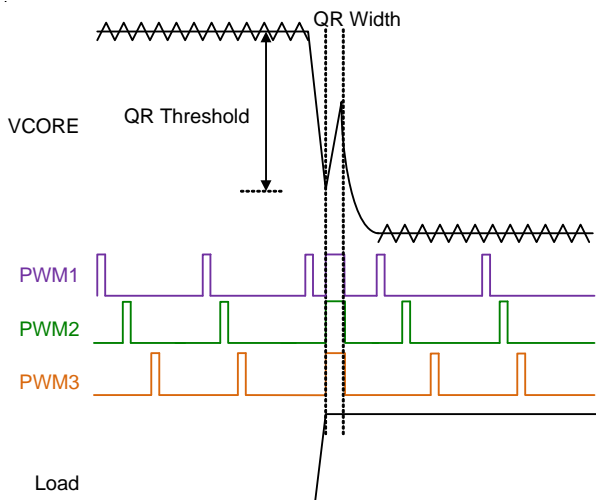

Figure 11. Quick Response Mechanism
When the transient load step-up becomes quite large, it is difficult for loop response to meet the energy transfer. Hence, that output voltage generate undershoot to fail specification. The RT8889D has Quick Response (QR) mechanism being able to improve this issue. It adopts a nonlinear control mechanism which can disable interleaving function and simultaneously to turn on one all UGATE pulse at instantaneous step-up transient load to restrain the output voltage drooping, Figure 11 shows the QR behavior.